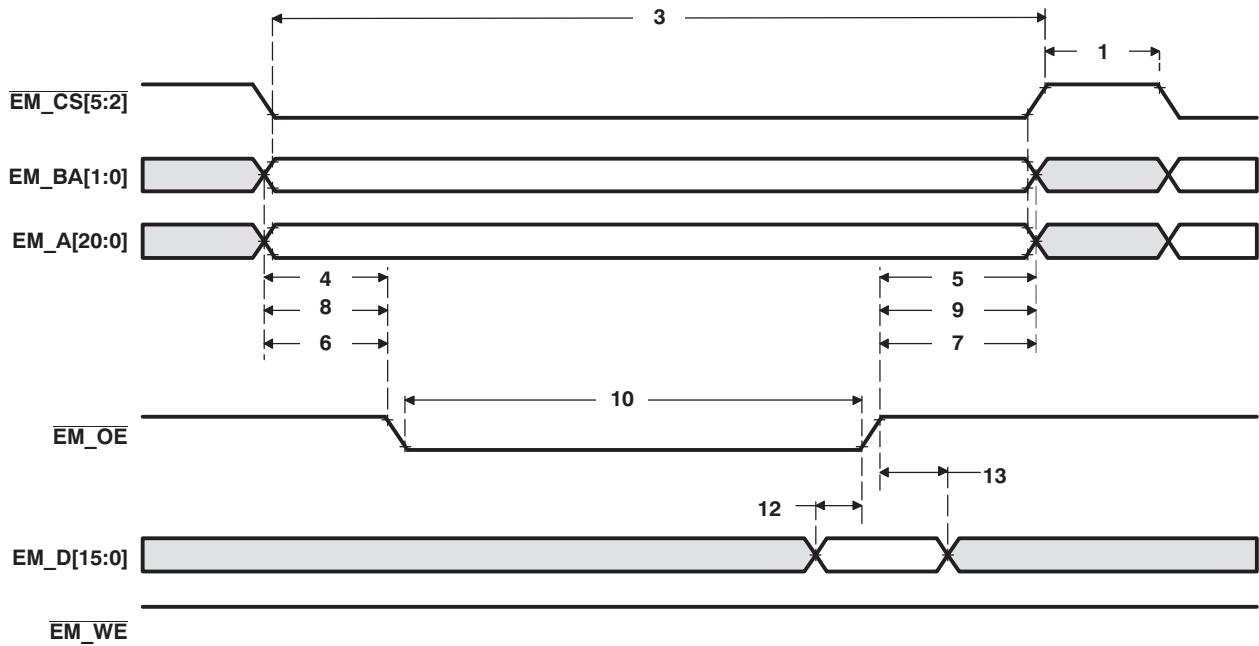
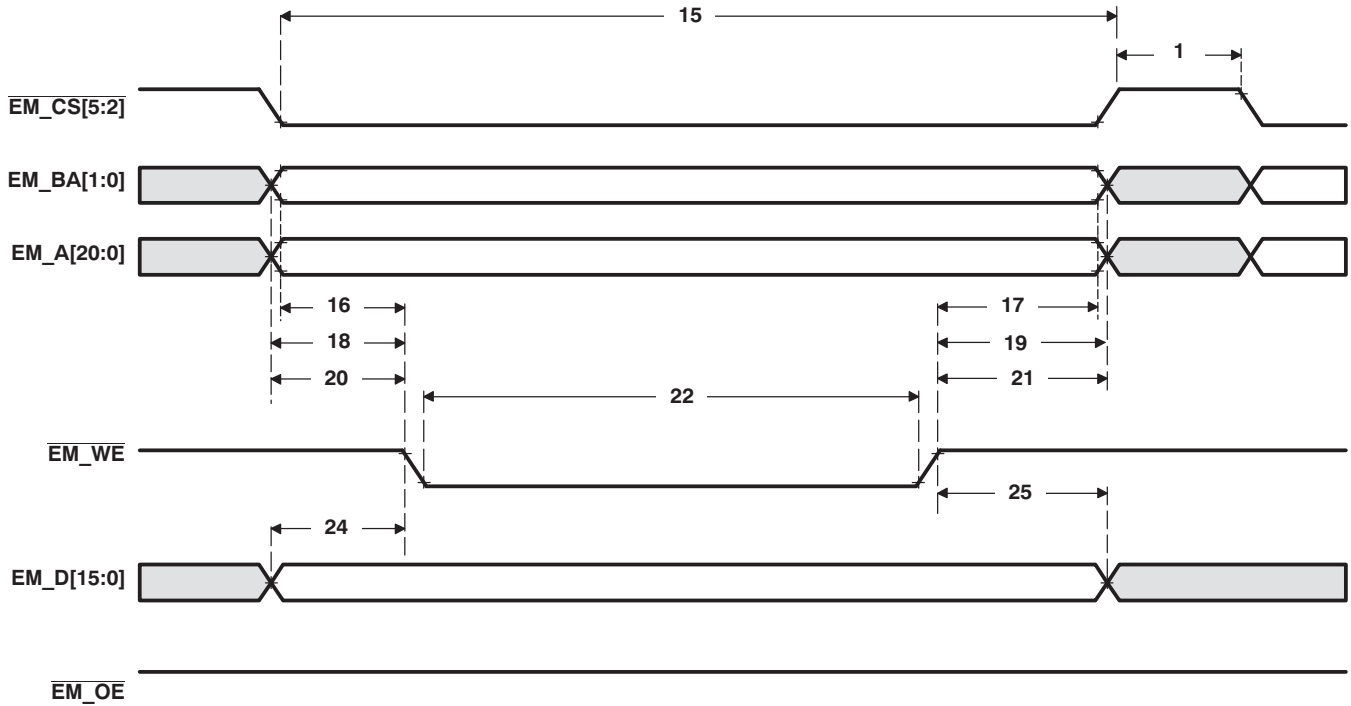
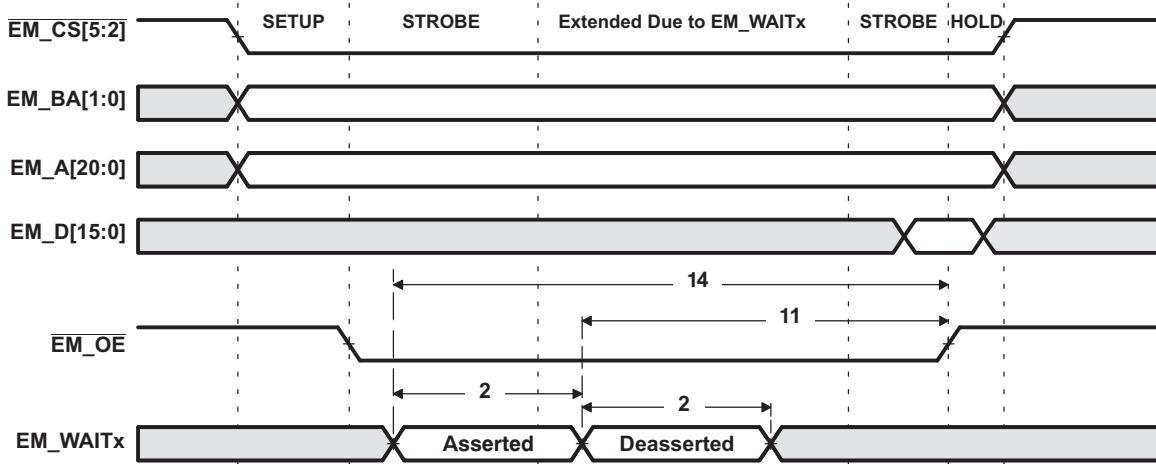
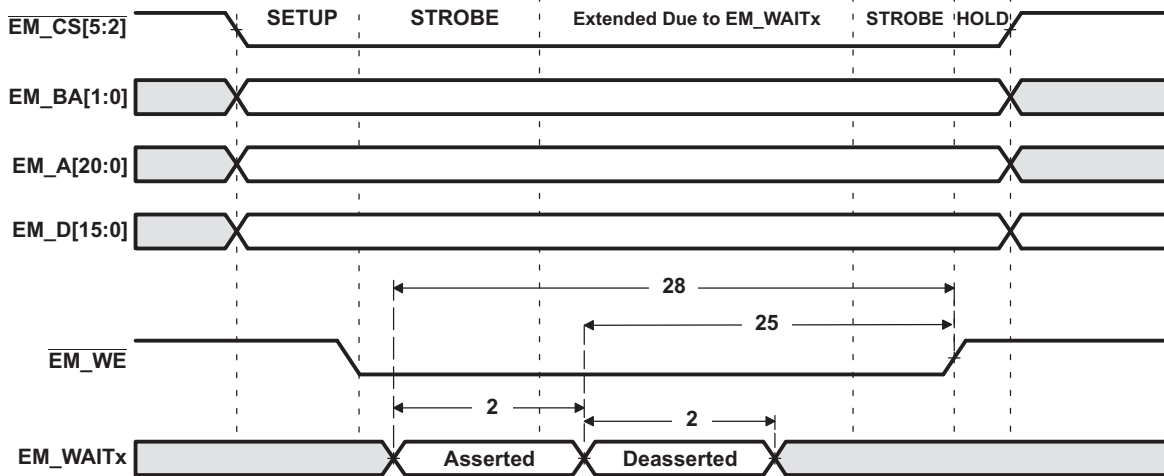

Figure 5-18. Asynchronous Memory Read Timing for EMIF
Figure 5-19. Asynchronous Memory Write Timing for EMIF
Figure 5-20. EM_WAITx Read Timing Requirements
Figure 5-21. EM_WAITx Write Timing Requirements
- (1) Timing parameters are obtained with 10pF loading on the EMIF pins.
- (2) TA = Turn around, RS = Read setup, RST = Read strobe, RH = Read hold, WS = Write setup, WST = Write strobe, WH = Write hold, MEWC = Maximum external wait cycles. These parameters are programmed via the Asynchronous Configuration and Asynchronous Wait Cycle Configuration Registers.
- (3) E = SYSCLK period in ns. For example, when SYSCLK is set to 100/120 MHz, E = 10/8.33 ns, respectively.
- (4) EWC = external wait cycles determined by EM_WAITx input signal. EWC supports the following range of values EWC[256-1]. Note that the maximum wait time before timeout is specified by bit field MEWC in the Asynchronous Wait Cycle Configuration Register.
Table 5-15. Switching Characteristics Over Recommended Operating Conditions for EMIF Asynchronous Memory^{(1)(2) (3)} (see Figure 5-19 and Figure 5-21)⁽⁴⁾ (continued)
Table 5-18. Timing Requirements for EMIF Asynchronous Memory⁽¹⁾⁽²⁾ (see Figure 5-18, Figure 5-20, and Figure 5-21)
- (2) E = SYSCLK period in ns. For example, when SYSCLK is set to 100/120 MHz, E = 10/8.33 ns, respectively.
- (3) Setup before end of STROBE phase (if no extended wait states are inserted) by which EM_WAITx must be asserted to add extended wait states. Figure 5-20 and Figure 5-21 describe EMIF transactions that include extended wait states inserted during the STROBE phase. However, cycles inserted as part of this extended wait period should not be counted; the 4E requirement is to the start of where the HOLD phase would begin if there were no extended wait cycles.
Table 5-19. Switching Characteristics Over Recommended Operating Conditions for EMIF Asynchronous Memory^{(1)(2) (3) (4)} (see Figure 5-18, Figure 5-20, and Figure 5-21)
(1) Timing parameters are obtained with 10pF loading on the EMIF pins.
(2) TA = Turn around, RS = Read setup, RST = Read strobe, RH = Read hold, WS = Write setup, WST = Write strobe, WH = Write hold, MEWC = Maximum external wait cycles. These parameters are programmed via the Asynchronous Configuration and Asynchronous Wait Cycle Configuration Registers.
(3) E = SYSCLK period in ns. For example, when SYSCLK is set to 100/120 MHz, E = 10/8.33 ns, respectively.
(4) EWC = external wait cycles determined by EM_WAITx input signal. EWC supports the following range of values EWC[256-1]. Note that the maximum wait time before timeout is specified by bit field MEWC in the Asynchronous Wait Cycle Configuration Register.
Table 5-19. Switching Characteristics Over Recommended Operating Conditions for EMIF Asynchronous Memory^{(1)(2) (3) (4)} (see Figure 5-18, Figure 5-20, and Figure 5-21) (continued)